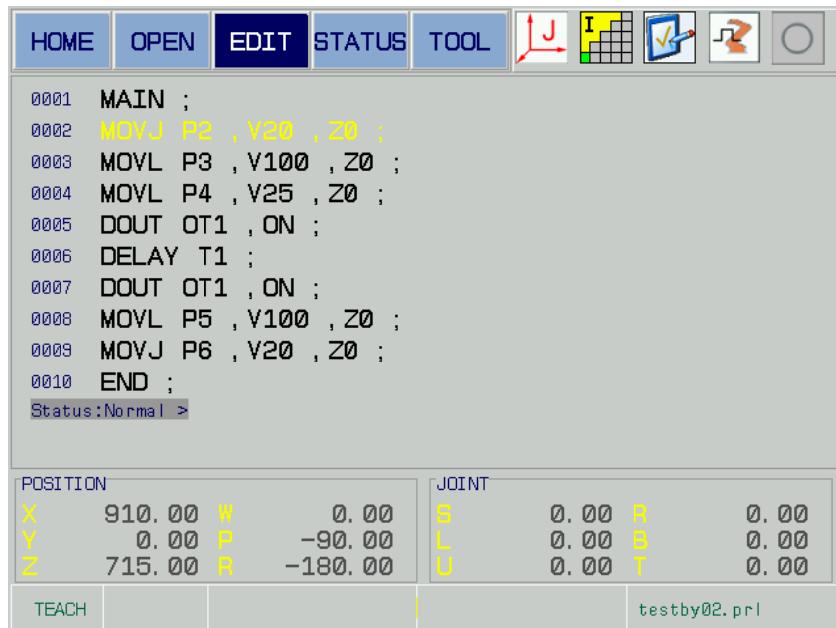

Fig. 5-38
The Fig. 5.38 is regarded as an example, cut the 2nd, 3rd and 4th line program to the back of the 5th line; refer to the operation steps:
1. Open the program “testby02.prl”, then enter the program display page; shift to the edit method by [F3]; select the program start line (the 2nd line) to be cut by up/down direction button; refer to the Fig. 5-38.